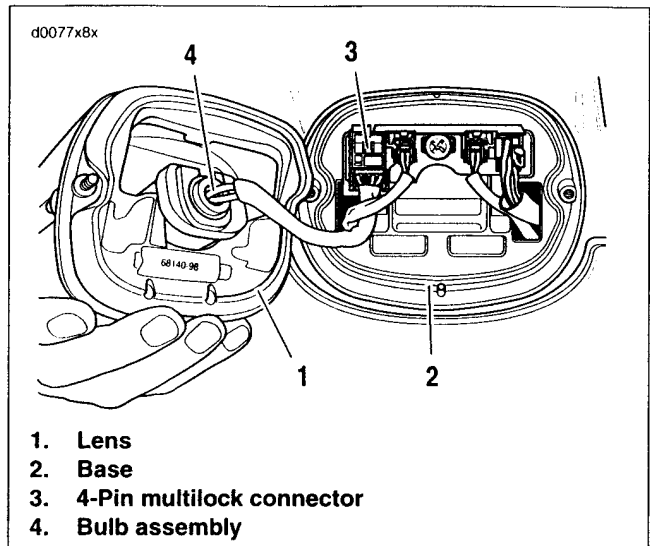

Figure 8-36. Tail Lamp: FXD, FXDL, FXDX, FXDXT
1. See Figure 8-36. Remove two screws and lens from base.